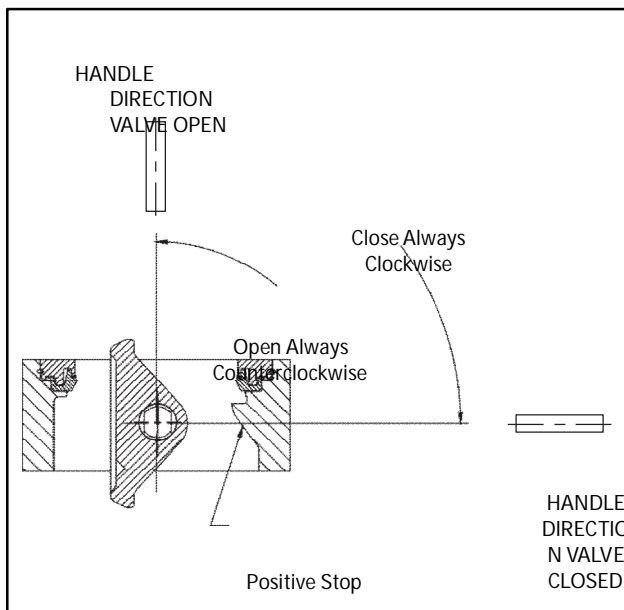

Figure 3
away from the valve disc centerline and (2) behind the disc sealing plane (See Figure 3). Offset shaft design makes the rotating disc "cam" back and away from the seat, completely eliminating the usual wear points at the top and bottom of the seat. Because the disc rotates off the seat in an eccentric arc, it operates in one quadrant only
(See Figure 3).
To prevent seat damage from over-travel of the disc beyond the closed position (usually during field mounting of a handle or actuator), a "positive stop" feature has been designed into the *Wafer-sphere* butterfly valve. The "positive stop" feature also makes it possible to adjust the actuator travel stops in-line. The location of this feature is shown in (Figure 3).
4. Before installing a closed valve in the pipeline, be sure that the handle or actuator is attached so that a counter-clockwise rotation, viewed from above, opens the valve (See Figure 3). Fully close the valve again before installing it in the pipeline.